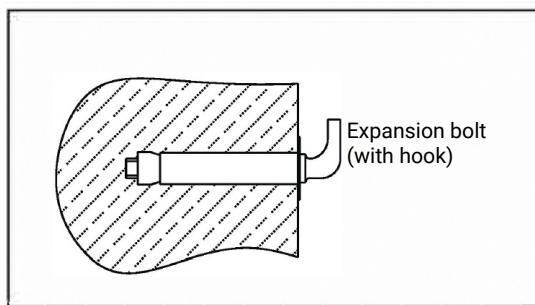

Fig. 2
- After selecting a proper location, determine the positions of the two holes used for expansion bolts with hook. Make two holes in the wall with the corresponding depth and size matching the expansion bolts attached with the heater insert the screws, turn the hook upwards, tighten the nuts to fix firmly, and then hang the electric water heater on it (see Fig.2).